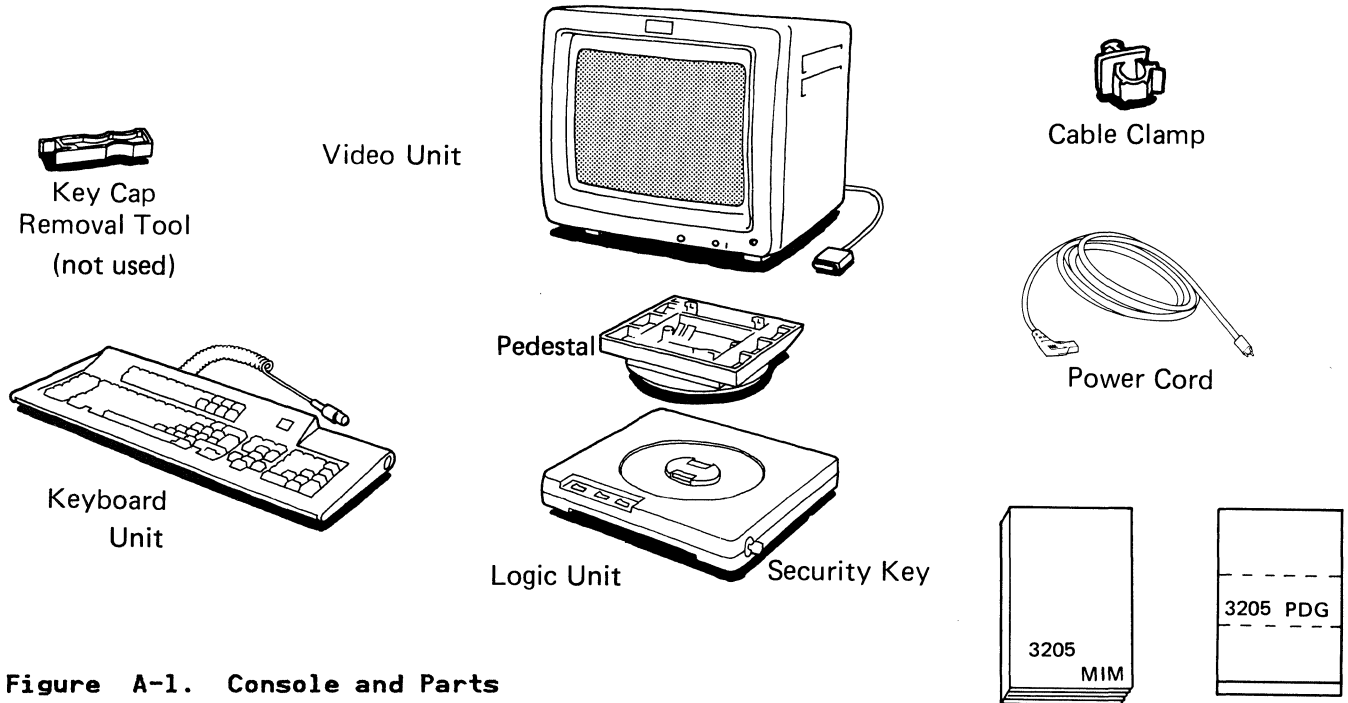

Figure A-1. Console and Parts
1. Make sure you received these items shown in Figure A-1. Check off each item and if any are missing, call the Raleigh Hotline (800)334-0431 or Hotline Tie line 441-5004, in North Carolina call collect (919)543-5004.